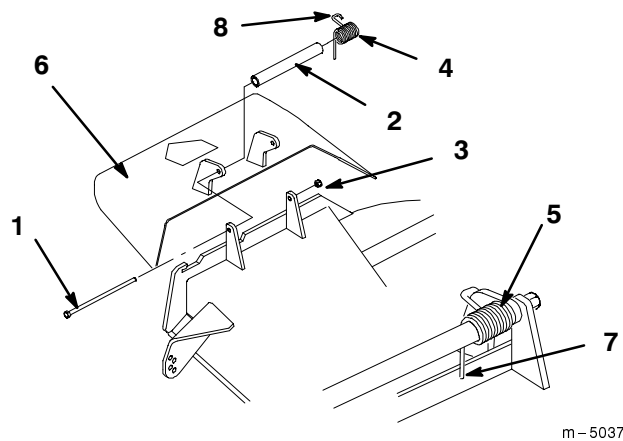

Figure 64
1. Remove the locknut, bolt, spring and spacer holding the deflector to the pivot brackets (Fig. 64). Remove damaged or worn grass deflector.
Note: Make sure the straight end of spring is installed behind deck edge before installing the bolt as shown in Figure 64.
3. Install bolt and nut. Place hook end of spring around grass deflector (Fig. 64).